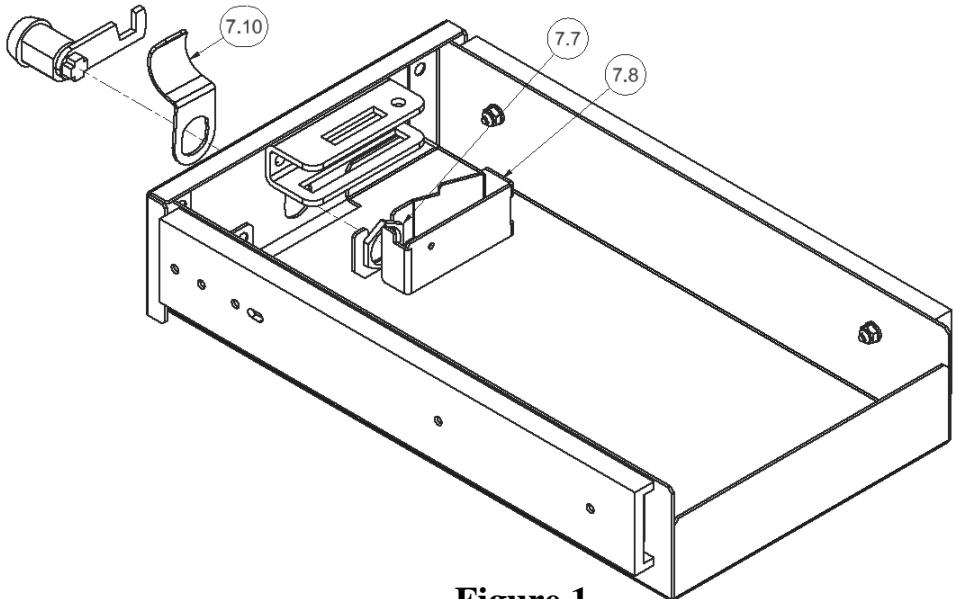

Figure 1
2. The Drawer is shipped with the #7.10 Finger Pull installed in the upward position. If you prefer, it may be oriented downward by removing the lock from the Drawer and inverting. This is done by removing the #7.7 brass Lock Retention Nut using a 7/8" wrench (accessed from the slot below), removing the Nut and #7.8 Lock Cover (which may be bent out of the way once the Nut is loosened). Then you can remove the Lock, invert the Finger Pull, and reassemble. **Note:** Make sure the tab on the Lock Cover is inserted into the latch slot before tightening the Retention Nut during reassembly. (Figure 1)